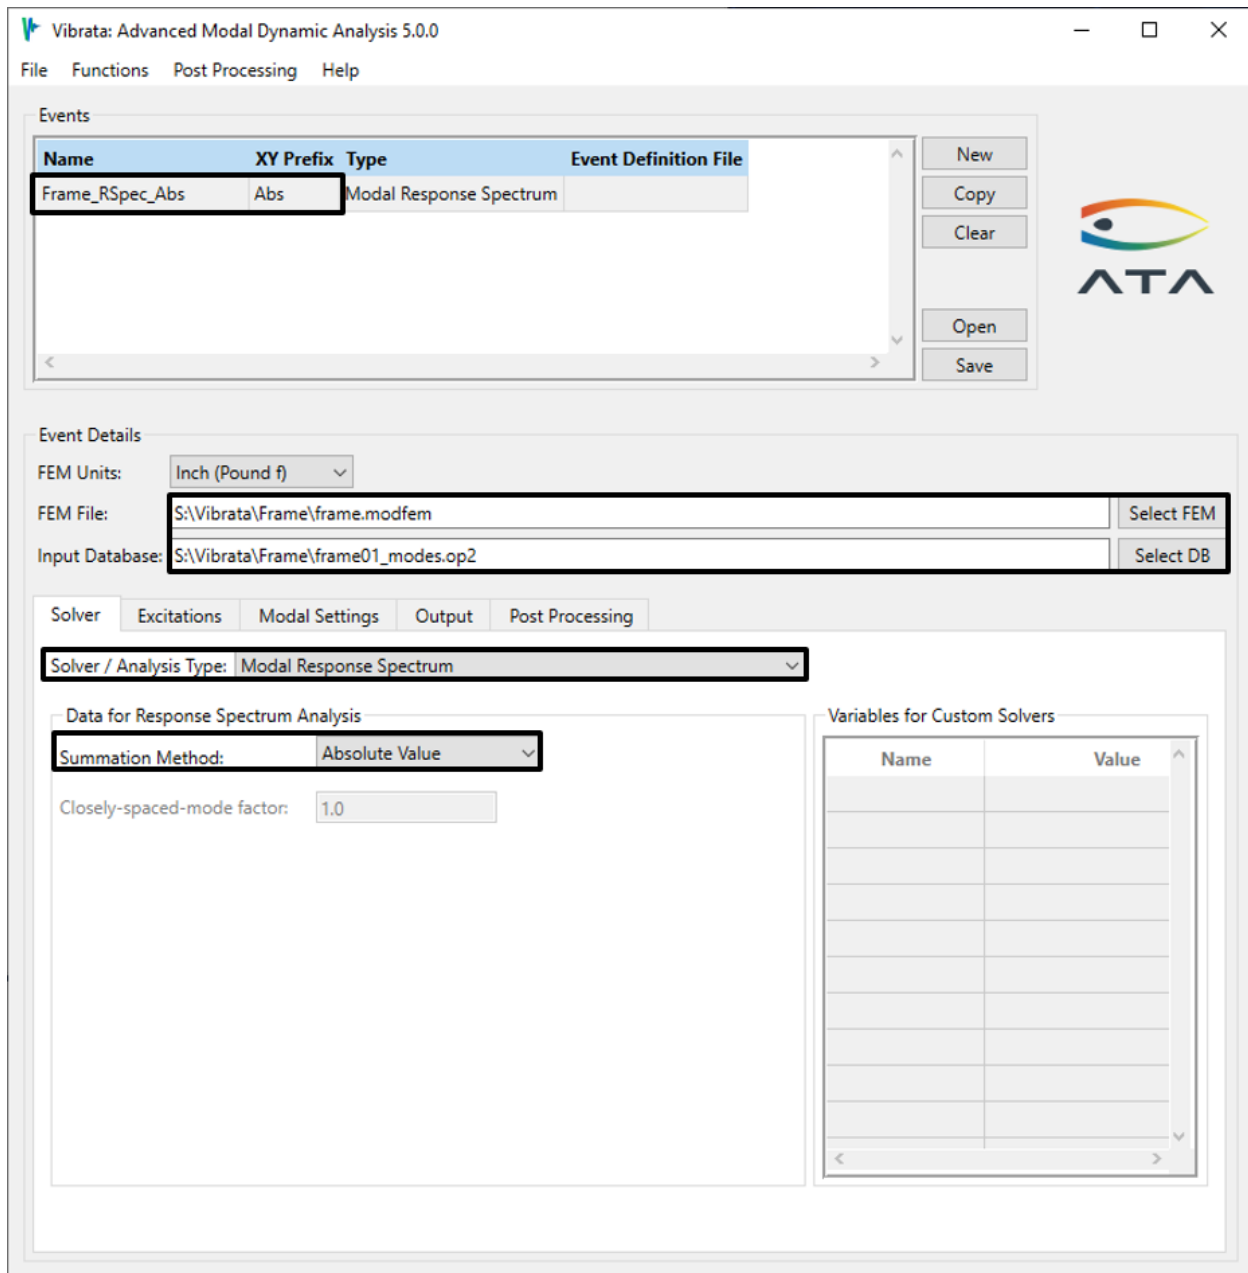

Figure 4-77. New response spectrum event with absolute value summation.
2. Create a new Vibrata event, select the "frame.modfem" file for the FEM and "frame01_modes.op2" for the results, and create a Modal Response Spectrum event with the **Summation Method** set to *Absolute Value* (Figure 4-77).